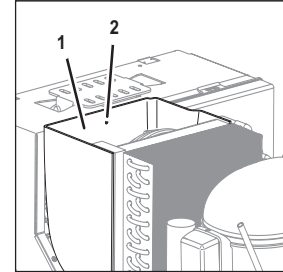

Fig. 45
1. Remove the insulation from the air duct (Fig. 45/1).
2. Remove the fastening bolt (Fig. 45/2) from the air duct (Fig. 45/1).
3. Lift and remove the air duct (Fig. 45/1) from the unit.
4. Position the new air duct (Fig. 45/1) on the unit.
5. Attach the insulation to the air duct from inside (Fig. 45/1).
6. Attach the air duct (Fig. 45/1) on the unit using the fastening bolt (Fig. 45/2).